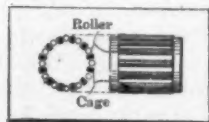

Fig. 1—Showing a roller bearing with the rollers and cage indicated.
**WHEN USING ROLLER BEARINGS—** In the effort to get away from sliding contact and its consequent loss of energy in friction one of the modern methods which has found favor is the use of roller bearings. Instead of the metal sliding over a plain metallic face it rolls over a series of small steel cylinders which are arranged as shown in Fig. 1. They are free to turn about their own axis so that the amount of bearing surface is very much reduced, being resolved down to a series of lines. The rollers are of course kept out of contact with each other as, if allowed to touch, their tendency would be to turn each other in opposite directions instead of in the same direction as they would do if performing their ordinary function.